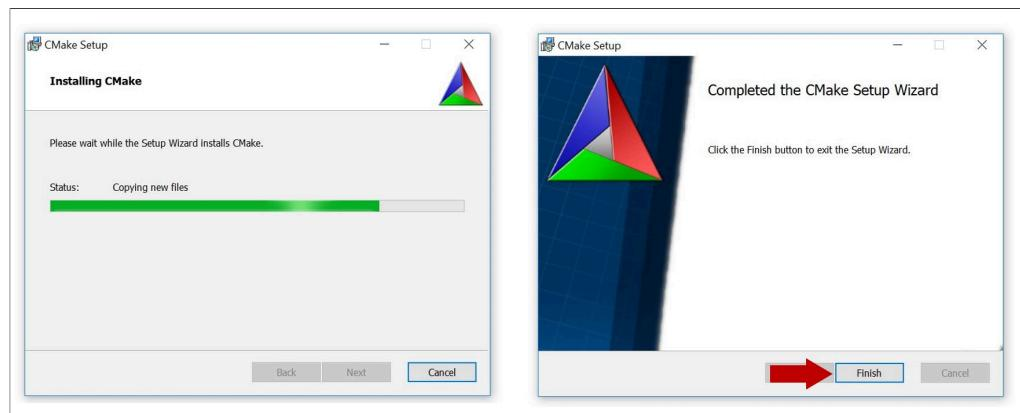

Figure 42. Complete CMake installation
8. Wait a few seconds until the installation is completed and click **Finish** as shown in Figure 42: